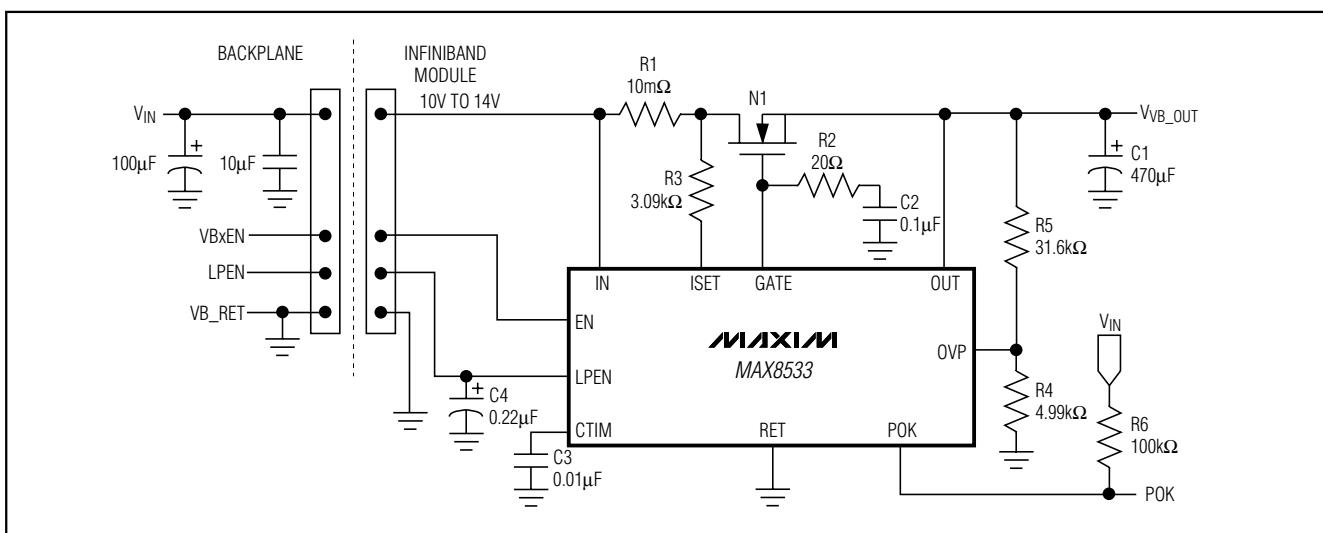

Figure 2. Typical 50W Applications Circuit
**Note 1:** The current regulation threshold is set by R3 (Figure 2). It is equal to  $20\mu A \times R3$ .
The MOSFET turn-on ramp rate is determined by the capacitor ( $C_2$ ) at GATE (Figure 2). An internal 10 $\mu$ A current source charges  $C_2$  to bring GATE high. The soft-start rate is determined as follows:
The MAX8533 has an adjustable overvoltage protection feature that latches the IC off in case of an overvoltage event. An external resistor-divider (R4 and R5, Figure 2) from OUT to RET with OVP connected to the center, sets the overvoltage threshold. Use 4.99kΩ for R4. R5 is determined using the following equation: